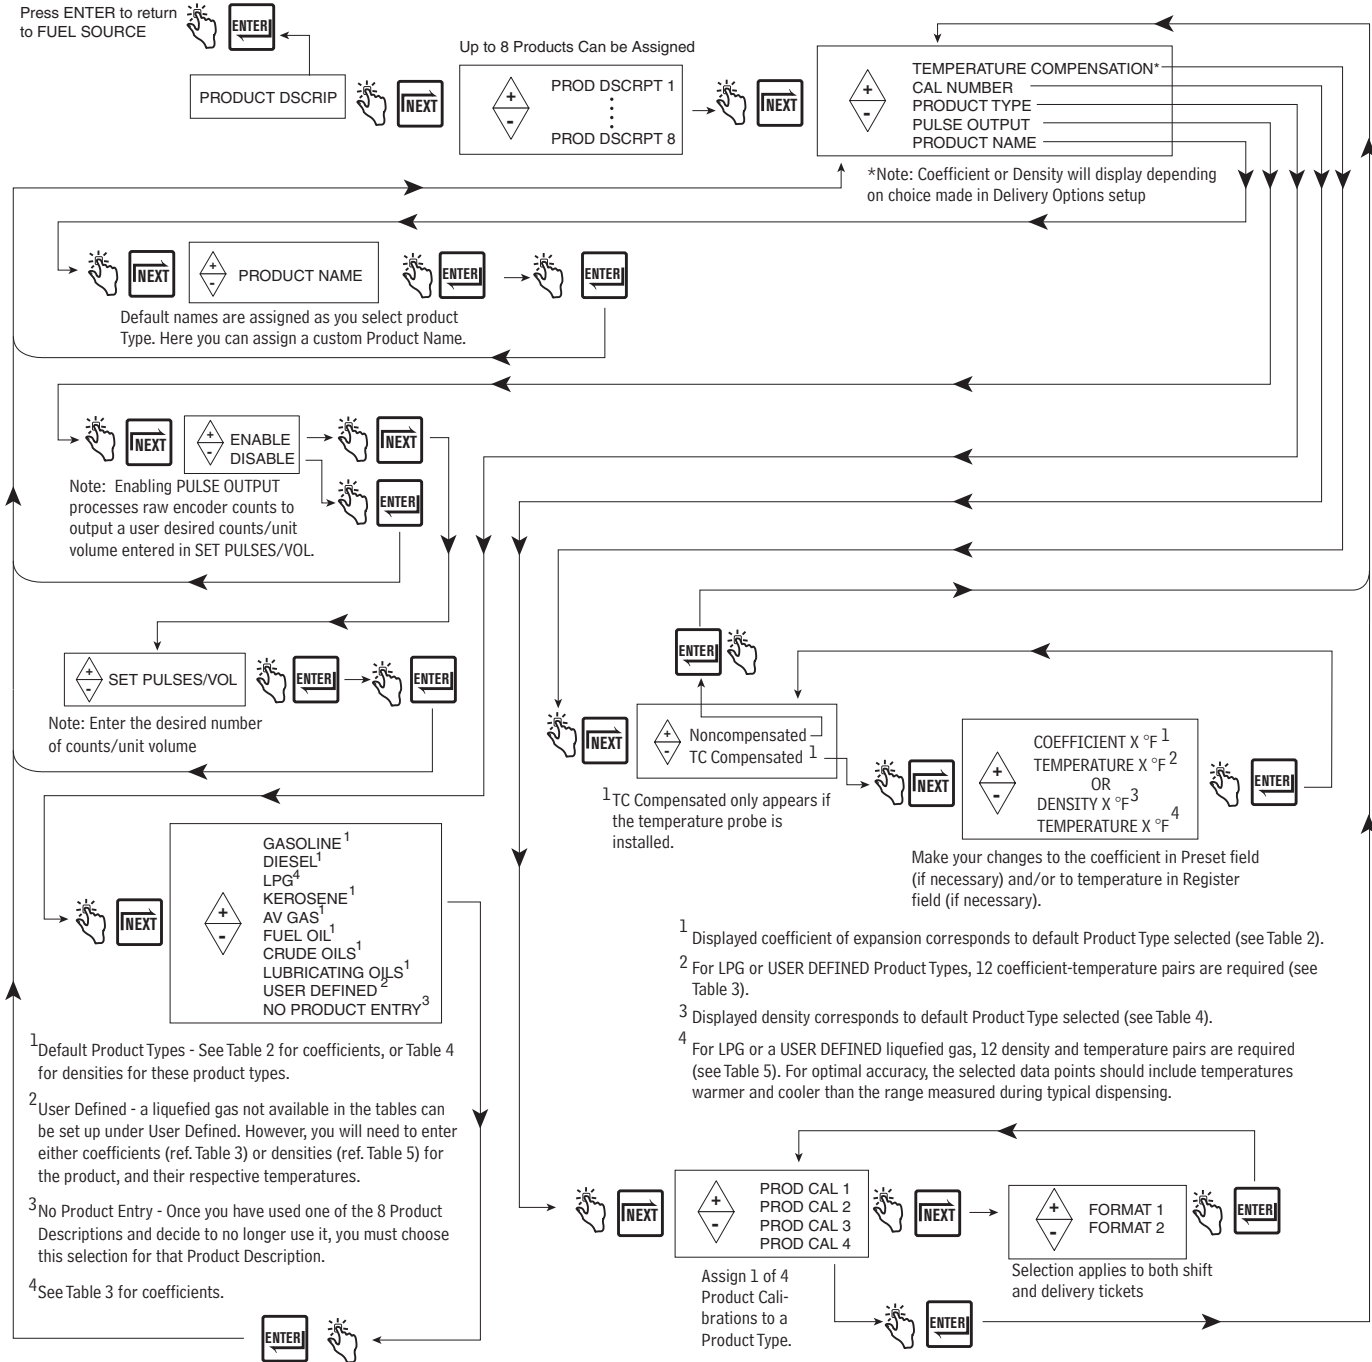

Figure 42. Product Description Setup
Figure 42 illustrates Product Description setup choices. You can assign up to eight products for the EMR³. Each product has a type, a name, and if the Temperature Compensation option is installed, a temperature compensation factor. The availability of temperature compensation is a factory installed option of the EMR³. Thermal compensation for all products is calculated by either thermal coefficient or density, which you select in Delivery Options Setup (page 50).
Coefficient (C_{oe}) values may be modified to meet specific fuel/product specifications. The factor "t" is the measured fuel temperature. For example, use the procedure described in Figure 42 on page 41 to change the default coefficient of expansion for diesel from 0.00081 to 0.00083. To calculate temperature compensated volume the coefficient of expansion (C_{oe}) is now equal to 0.00083.
4. After completing the above 3 steps, change the default density value for up to eight specific products as described in Figure 42, Product Description Setup.